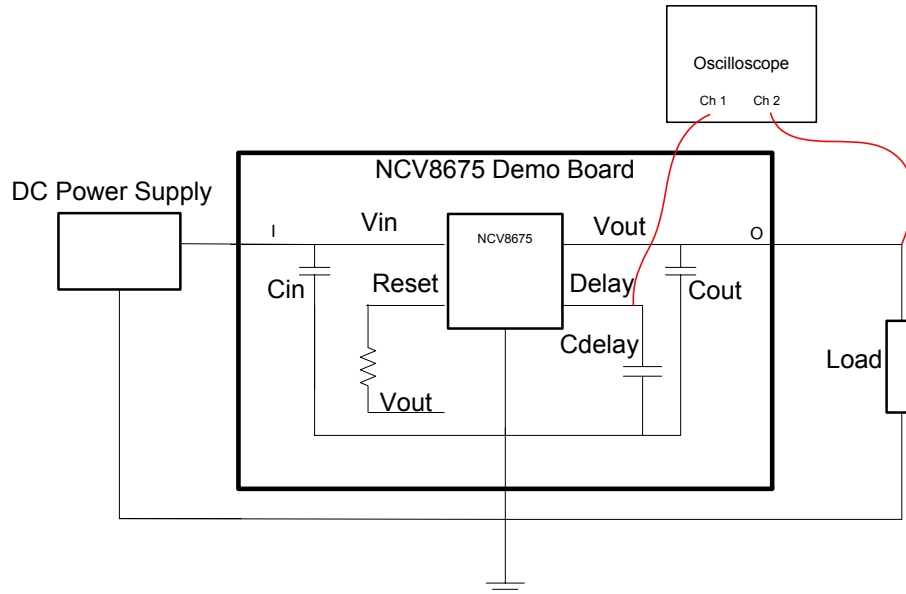

Figure 4: Reset Delay Verification Setup
1. Connect circuit as shown in Figure 4.